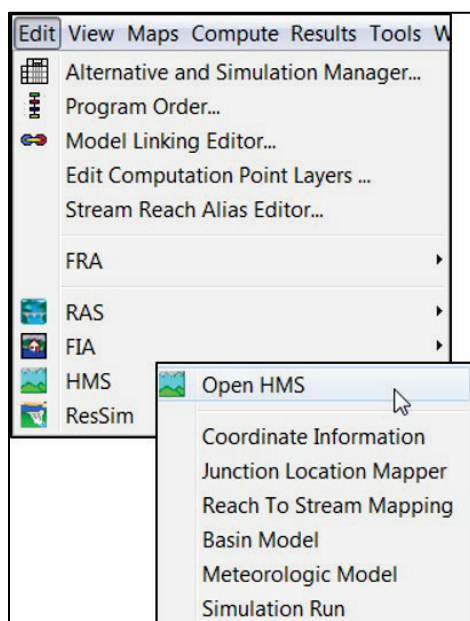
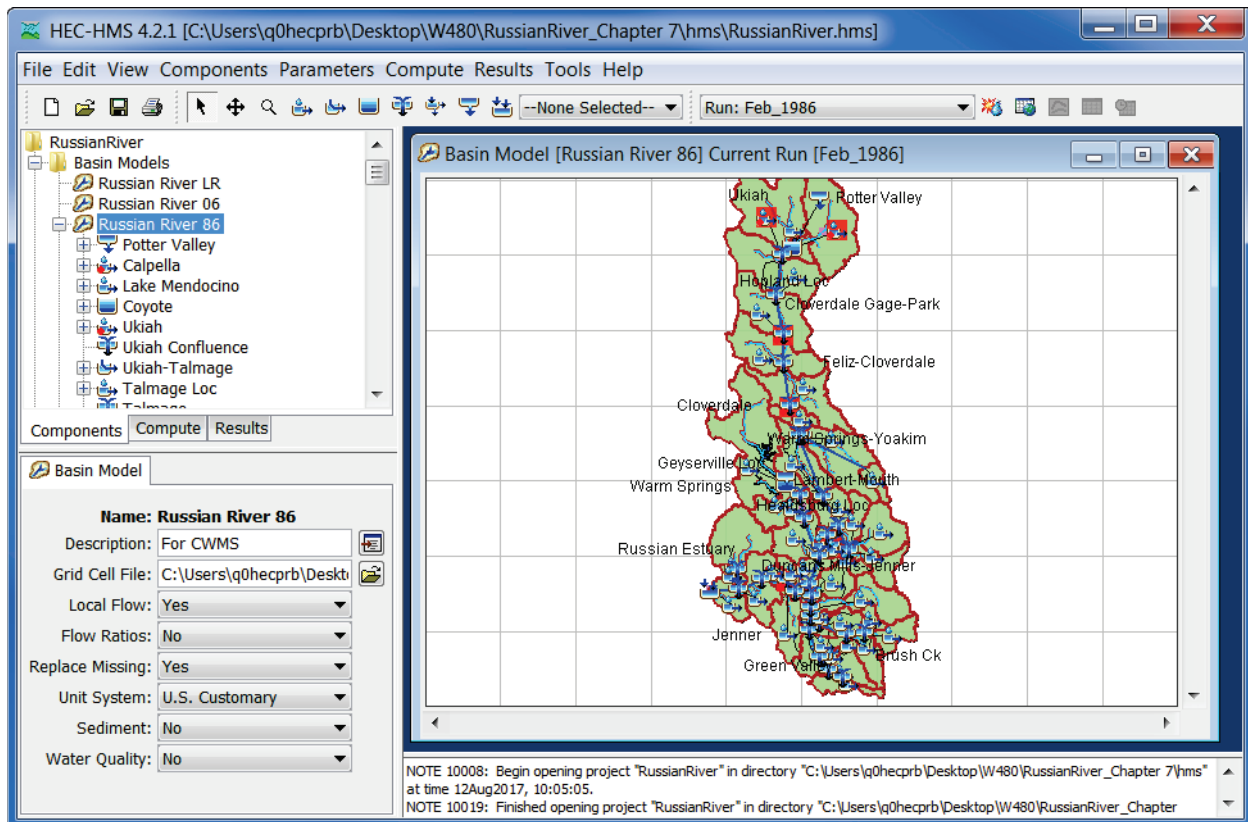

Figure L.24 Edit Menu – HMS
Figure L.25 HEC-HMS Main Window – Basin Model Tab
From the menu bar of the main HEC-WAT window, click **Edit** (Figure L.24), from this menu the user can access various editors or parts of a software application's interface that are specific to the software applications included in the program order for a study. For example, in Figure L.24, point to **HMS**, the available commands allow the user to interact with the HEC-HMS software application and access parts of the HEC-HMS interface like the **Basin Model** tab. The following sections provide an overview of the available editors. For more detail you will need to visit the user's manuals associated with each piece of software.
From the HEC-WAT main window (Figure L.1), from the **Edit** menu, point to **HMS** (Figure L.24), click **Open HMS**. The HEC-HMS software application will open and the HEC-HMS main window will display (Figure L.25). The user can modify existing HEC-HMS models or create new HEC-HMS model components, once the user is finished and the model has been saved, the HEC-HMS model information is stored in the HEC-WAT study directory, under the *hms* folder. The rest of this section provides an overview of the HEC-HMS interface that is directly available from the HEC-WAT framework.
1. From the WAT main window, from the **Edit** menu (Figure L.24), point to **HMS**, click **Basin Model**.
2. The HEC-HMS main window will open with the **Basin Model** tab displayed (Figure L.25). This tab allows the user to change parameters that are specific to an HMS basin. For further detail on this editor, reference the HEC-HMS User's Manual.
3. From the **File** menu, click **Exit**, the HEC-HMS main window will close (Figure L.25).
1. From the HEC-WAT main window, from the **Edit** menu (Figure L.25), point to **HMS**, click **Meteorologic Model**.
1. From the WAT main window, from the **Edit** menu (Figure L.24), point to **HMS**, click **Simulation Run**.